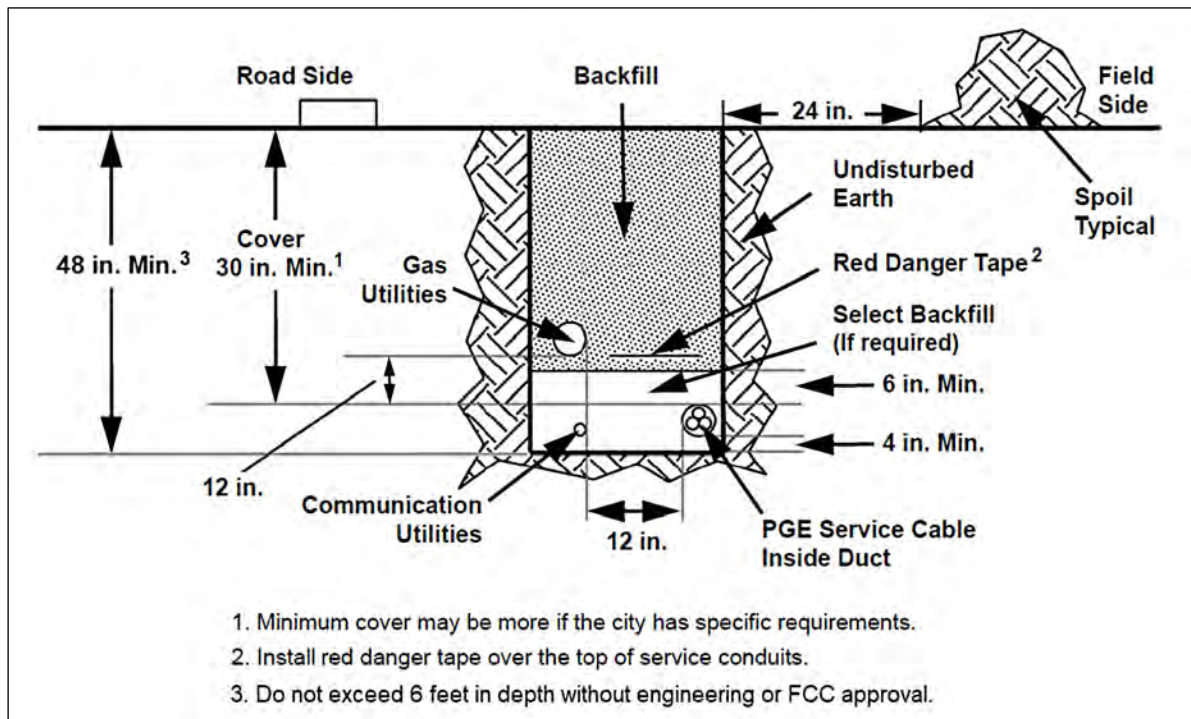
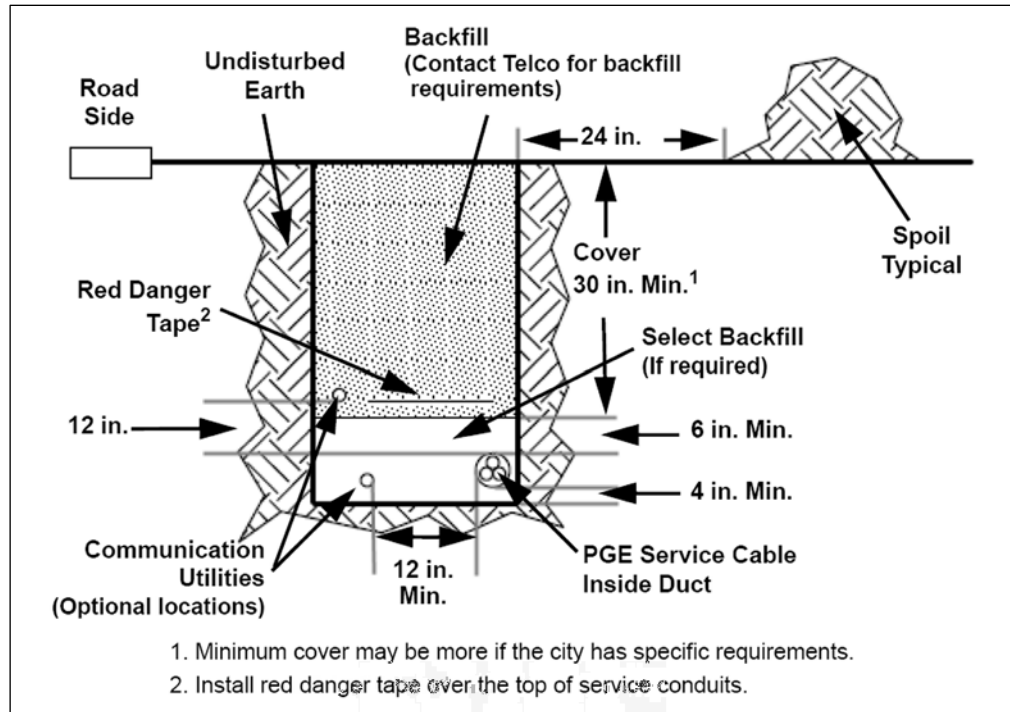

Figure 28: Service Cable Trench for Joint Use With Gas
Figure 29: Service Cable Trench for Joint Use Without Gas
- Ensuring that spoil (excavated material) is placed at least 24 inches back from the edge of the trench as shown in **Figure 28** and **Figure 29**. If this is not possible, shoring may be required to comply with OSHA rules. Spoil may be placed in the street if approval is received from the local jurisdiction.
Trench designs must provide suitable protective earth cover and separation between PGE-energized cables and other joint trench utilities along the entire trench length. **Figure 28** and **Figure 29** list the minimum requirements for trench depth and cable separation. Greater depths may be required by local jurisdictions.